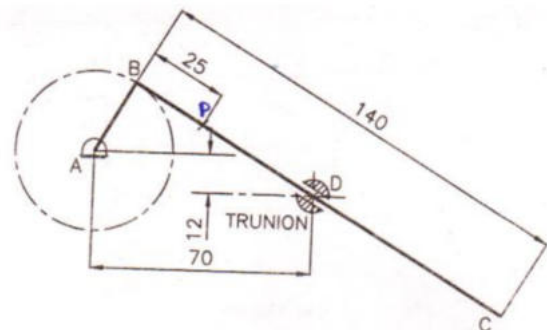

Fig. 1
10. **(S-19)** In the mechanism shown in Fig.1, the connecting rod is constrained to pass through the trunnion at D. Trace the locus of the end C and a point P on BC for one complete revolution of the crank. In Fig. 1 consider AB as 30 mm.
[Refer to Fig. 1 from Paper: Summer 2019]